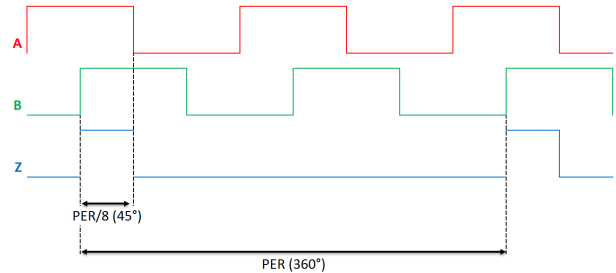

Figure 18: Calibration using incremental signals when rotating clockwise according to Figure 6
Step 2: Set $CFGRES = 0x01$ (8 edges per 360° rotation). Adjust GCC so that the distance in between two adjacent edges of signal A and B is exactly $PER/8$. Please refer to Figure 18.